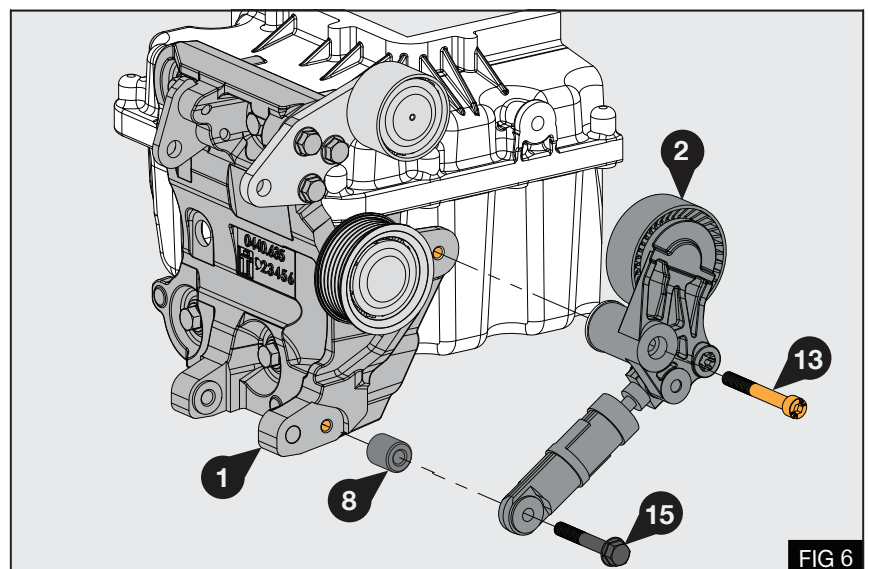

FIG 6
8. Install the automatic tensioner (2) to bracket (1) using spacer (8), with M8 x 55 bolt (15). Install the M8 x 65 socket head cap (13) as indicated - Fig 6
- Torque bolt (13) to 20.3 ± 1.6 ft / 27.5 ± 2.2 Nm
- Torque bolt (15) to 22 lb.ft / 30 Nm